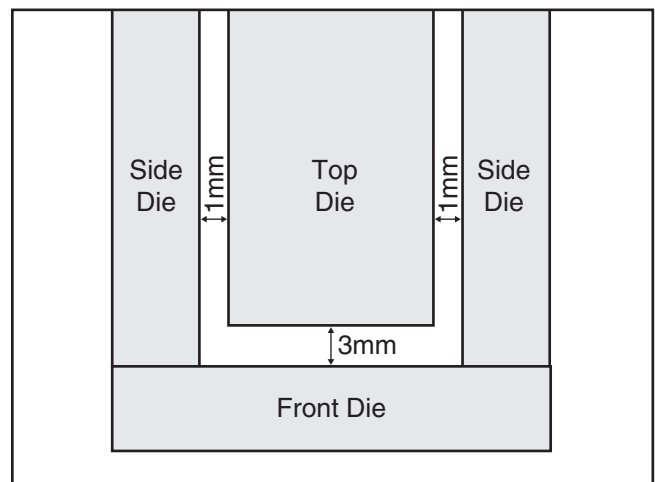

Figure 30. Notching die clearances.
11. Alternately loosen the side die cap screws and adjustment set screws until there is a 1mm gap evenly between the top and side dies (see **Figure 30**).